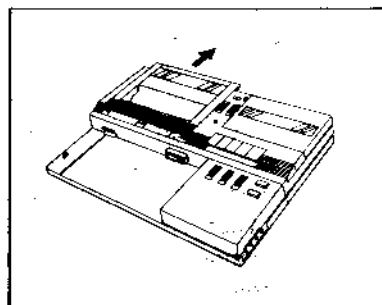

Fig. 1
- (1) Set the plotter POWER switch to ON and the ON LINE/LOCAL switch to LOCAL.
- (2) Remove the printer cover by sliding it as shown in Fig. 1.
- (3) Press the PEN CHANGE key, and the pen holder assembly moves to the right. Keep pressing the PEN CHANGE key until the pen to be changed comes on top.
- (4) Pull the pen removing lever, and the pen is disengaged from the groove. Carefully take out the pen from the assembly.